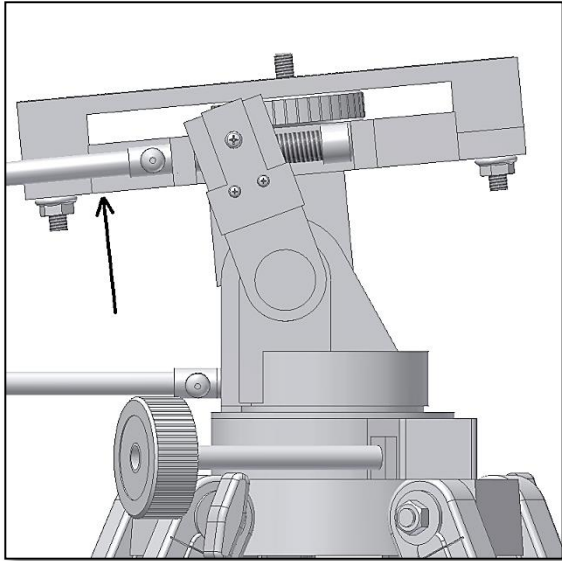
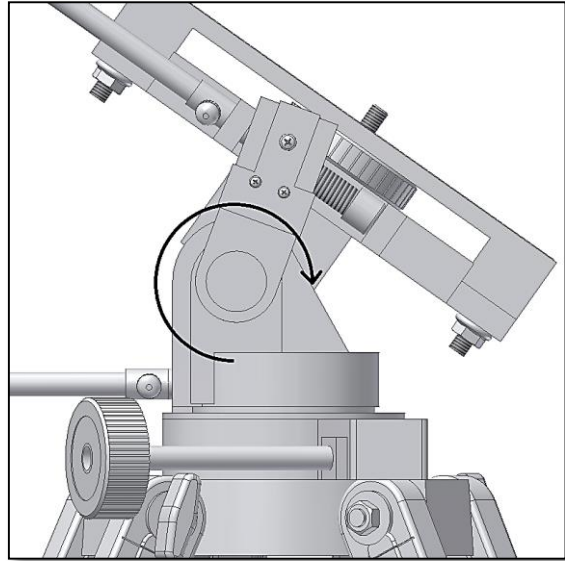
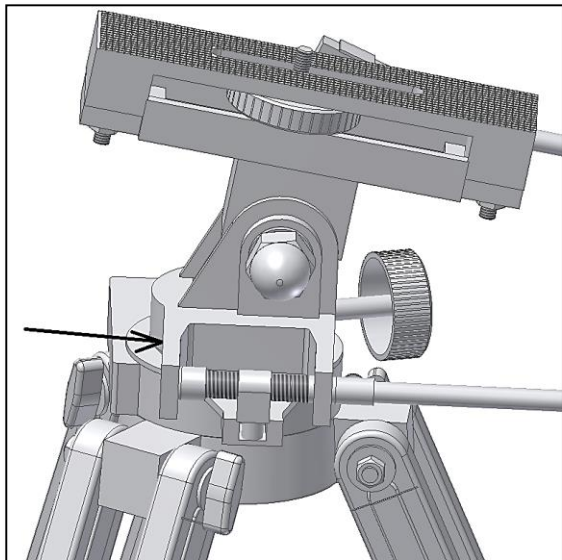
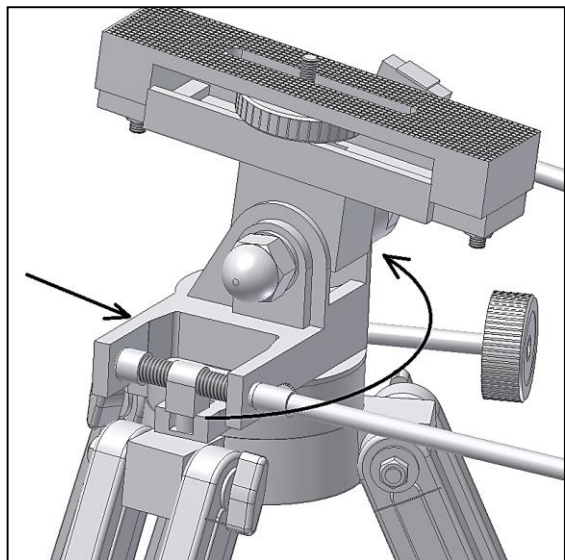

Figure 9. Altitude coarse adjustment.
Figure 10. Altitude axis rotate.
Figure 11. Azimuth coarse adjustment.
Figure 12. Azimuth axis rotate.
2.1. Coarse adjustments. The mount moves in two axis; the altitude (up and down) and the azimuth axis (left and right). **Coarse adjustment:** Push the telescope platform up vertically (figure 9). You may need to apply some strength to move it. The mount will turn around the altitude axis (figure 10). This is called the altitude coarse adjustment movement. The azimuth coarse adjustment movement is done similarly. Apply some pressure to the mount as shown in figure 11. The mount will move along the azimuth axis (figure 12). **Azimuth brake.** Make sure that the azimuth brake is released when coarse adjusting the azimuth axis. Turn it to fix the mount on the azimuth axis.